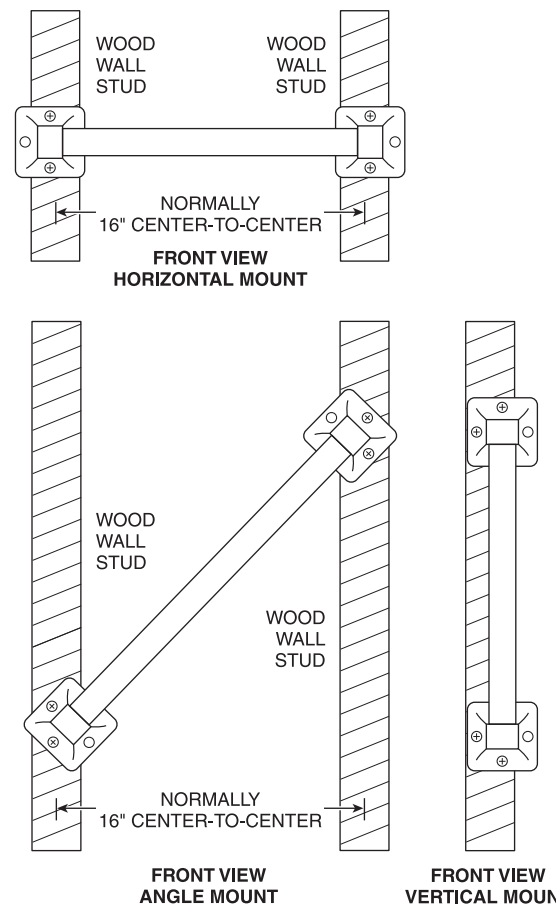

Figure 2
Residential Assist Bar may be installed vertically, horizontally or at an angle, so long as at least two (2) of the three (3) mounting screws on both ends of the Residential Assist Bar are secured into a wall stud (see Figure 2). Locate the wall studs behind the wall before beginning installation (a stud finder can be obtained from a hardware store).